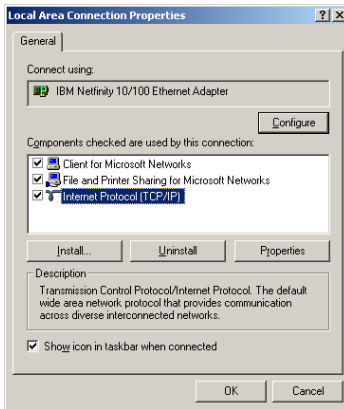

Figure 3: Local Area Connection Properties Window
5. Select the Internet Protocol (TCP/IP) and click the **Properties** Button (see Figure 3).